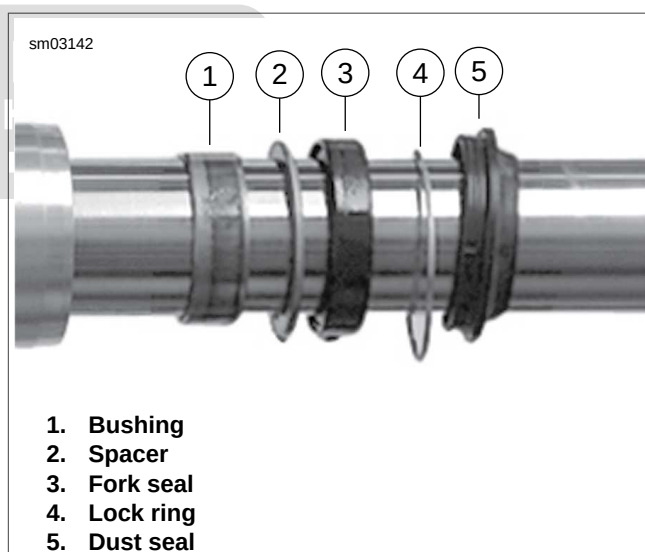

Figure 2-175. Seal Components
12. See Figure 2-175. Once fork tube and slider are separated, remove dust seal, lock ring, fork seal, spacer, bushing and chrome dust cover (not shown) from fork slider.